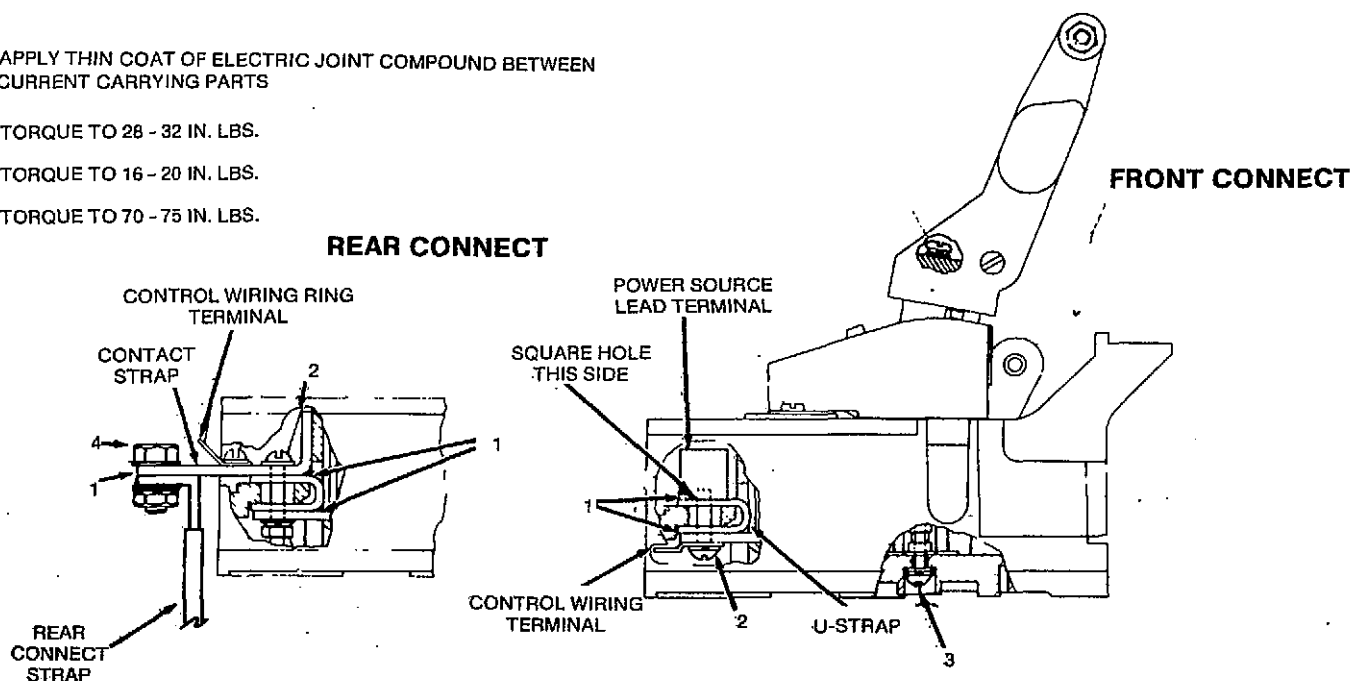

FIGURE 16. FRONT AND REAR CONNECT SWITCH ASSEMBLY
7. Remove the control wiring leads from the power source terminals (see Figure 16).
On **rear** connect switches, remove hex head capscrews, spring washers, flat washers, lock washers, and nuts that secure the contact straps (see Figure 16) to the rear connect straps.
11. On **front** connect switches, remove the round head machine screw, locking washer, ring terminal, lug terminal and U-strap, from the switch assembly (see Figure 16).
On **rear** connect switches, remove the round head machine screw, flat washers, contact strap, locking washer, nut, and U-strap from the switch assembly (see Figure 16).
On **rear** connect switches, apply a thin coat of electric joint compound between the current carrying surfaces of the contact strap and rear connect strap (see Figure 16). Secure with hex head machine screw, spring washer, flat washer, lock washer, and nut. Tighten to 70 to 75 in-lbs (7.9 to 8.5 N•m) torque.